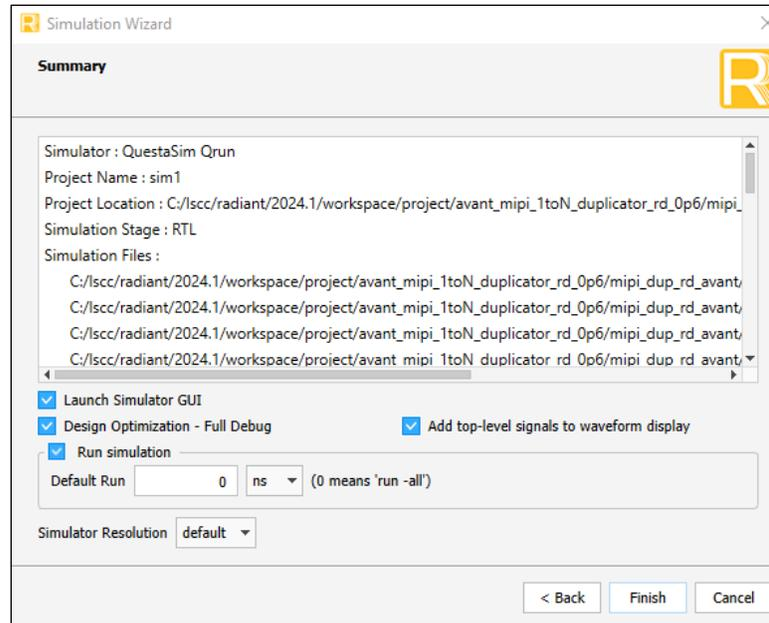

Figure 7.4. Simulation Wizard: Summary Page
5. Select the configuration as shown in Figure 7.4. Note that for a complete simulation runtime, the **Default Run** must be set to 0 ns. Click **Finish**.